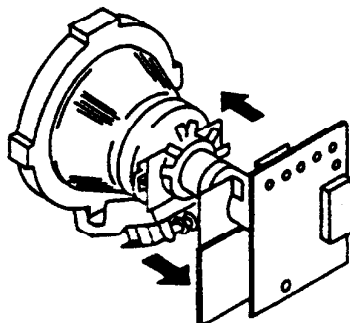

Fig. 3-1
(See Fig. 3-1 through 3-3.)
5. Move the deflection yoke forward and adjust so that entire screen is red. (See Fig. 3-1.)